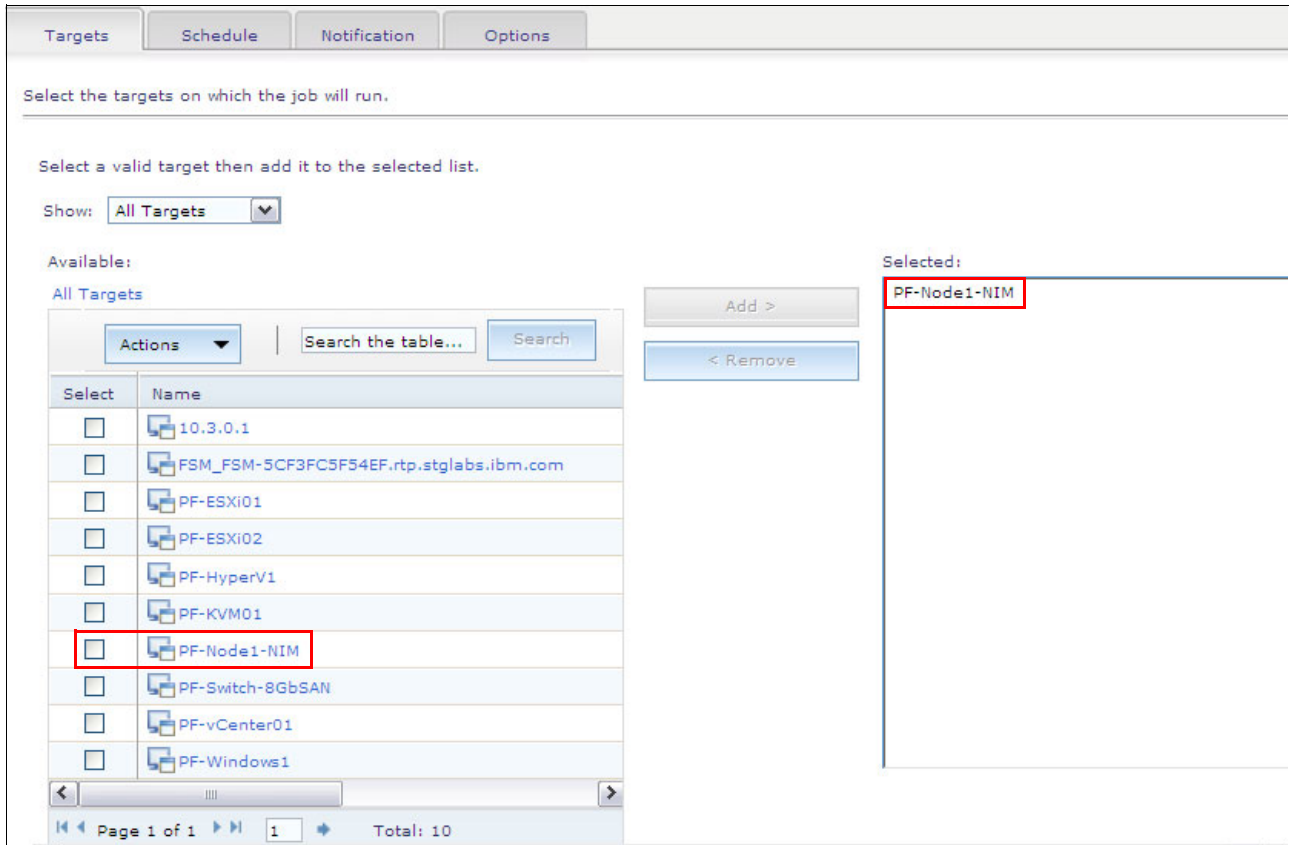

Figure 10-45 Discover virtual appliances menu
9. Select the NIM server that you want to discover, then click **Add** as shown in Figure 10-45 on page 426.